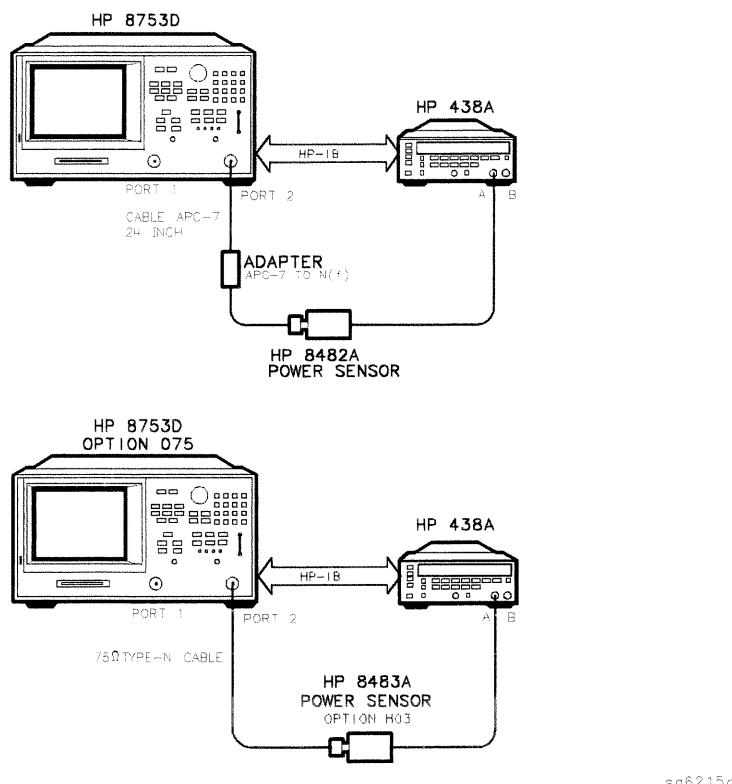

Figure 2-25. Setup for Power Meter Calibration on Test Port 2
22. Connect the equipment as shown Figure 2-25.